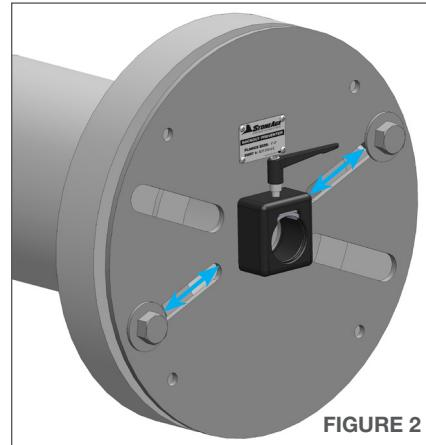

FIGURE 2
2. Adjust the Quarter Plate Flange Mount by sliding it along the slots to center the inside diameter of the Hinge Clamp with the inside diameter of the pipe. Tighten all hardware to secure in place. (**Figure 2**)
2. Align the appropriate slots or pre-drilled holes to the hole pattern on the flange. Adjust the Flange Mount Plate by sliding it along the slots to center the inside diameter of the Hinge Clamp with the inside diameter of the pipe. Tighten all hardware to secure in place. (**Figure 2**)
2. Pull excess strap through the Winch Assembly and tighten down with the Ball End Handle. (**Figure 2**)
- Release the Adjustable Handle on the BOP 070 Hinge Clamp to access the 4 socket head cap screws. Locate the side of the BOP 030 Collet Block Assembly with 4 threaded holes. Orient the Hinge Clamp so that the hinge is on the right. Fasten the Hinge Clamp Assembly to the Collet Block Assembly using the 4 supplied socket head cap screws. **(Figure 2)**
- Pull out the Quick Release Pin and remove the Collet. Feed the male hose end into the guide tube, through the rollers and out the end of the BOP 081-6 Snout Tube. (**Figure 2**) Go to page 23, “Roller and Collet Selection” to determine the appropriate size Rollers and Collets for the high pressure hose diameter.